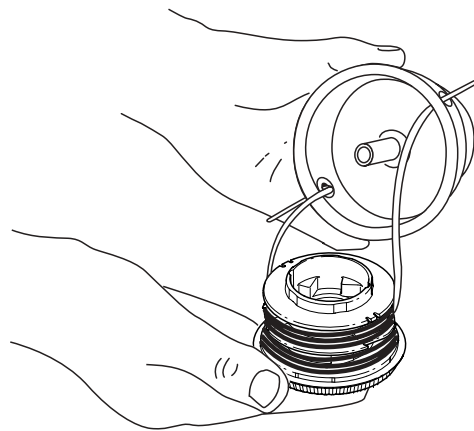

Fig. 53
3. Insert the ends of the prewound inner reel line into the outer spool eyelets (Fig. 53). Push the new inner reel, arrow side up, into the outer spool.
3. Pull the inner reel with existing line from the outer spool (Fig. 53).